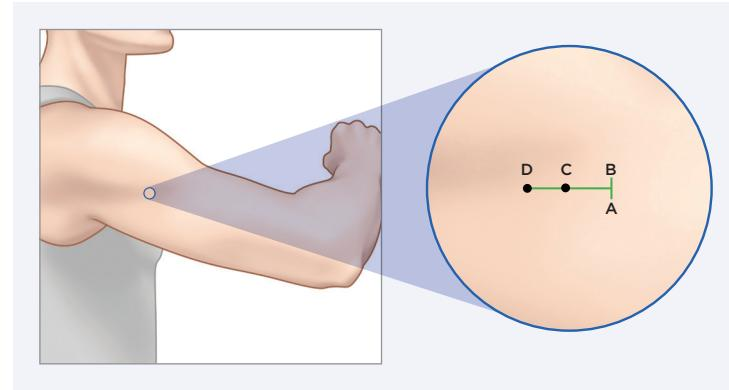

Figure 1
Local anesthesia (approximately 2 mL of Lidocaine) should be injected approximately 5 mm along the planned incision (along AB) and approximately 30 mm perpendicular to the planned incision (along CD) which is the planned track of the blunt dissector tool. (Figure 1).
Start incision at point B (Figure 1) and go towards point A, until the incision is approximately 5 mm.
- Remove the blunt dissector from the tray and introduce the blunt dissector at approximately a 45 degree entry angle at the midline between A and B (Figures 1 & 2) so that the tip and tapered portion of the blunt dissector are under the skin, and until the depth guards are touching the skin.